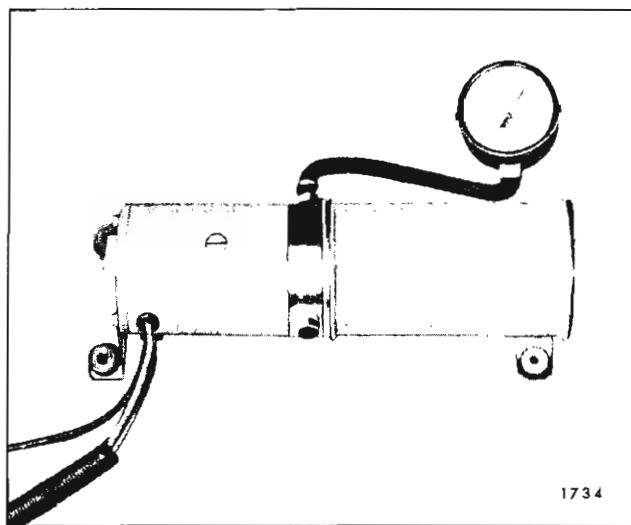

Fig. 1-I-69—Checking Pump Pressure
b. Install plug in one port, and pressure gauge in port to be checked. (See Fig. 1I69).